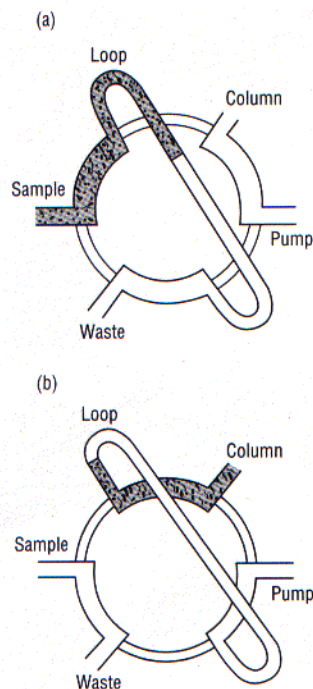

FIGURE 3: Valve configuration for a partial-loop injection. Shown are (a) load and (b) inject positions. (Reprinted with permission from reference 10.)
Response: This example is a good illustration of a problem that can occur inadvertently when analysts service an injection valve. Figure 3 shows the standard flow configuration of the injection valve, in which the loop is backflushed onto the column. Reversing the column and pump connections causes no change in back pressure or apparent function of the injector. If analysts use a filled-loop injection technique, the injector will work correctly. However, if the loop is filled only partially, the sample must pass through the remaining loop volume on its way to the column. It is easy to imagine the band spreading that could occur
FIGURE 2: Chromatograms generated by partial-loop injections using (a) a correctly plumbed valve (see Figure 3) and (b) a valve for which the pump and column connections have been reversed (11).